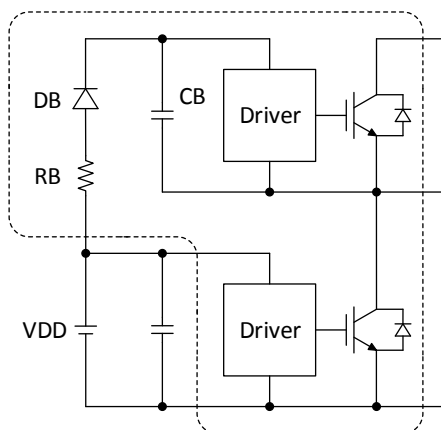

Figure 20. Boot Strap Circuit
VB1, VB2, VB3 The VBx pins are internally connected to the positive supply of the high-side drivers. The supply needs to be floating and electrically isolated. The boot-strap circuit shown in Figure 20 forms this power supply individually for every phase. Due to integrated boot resistor and diode (RB & DB) only an external boot capacitor (CB) is required.